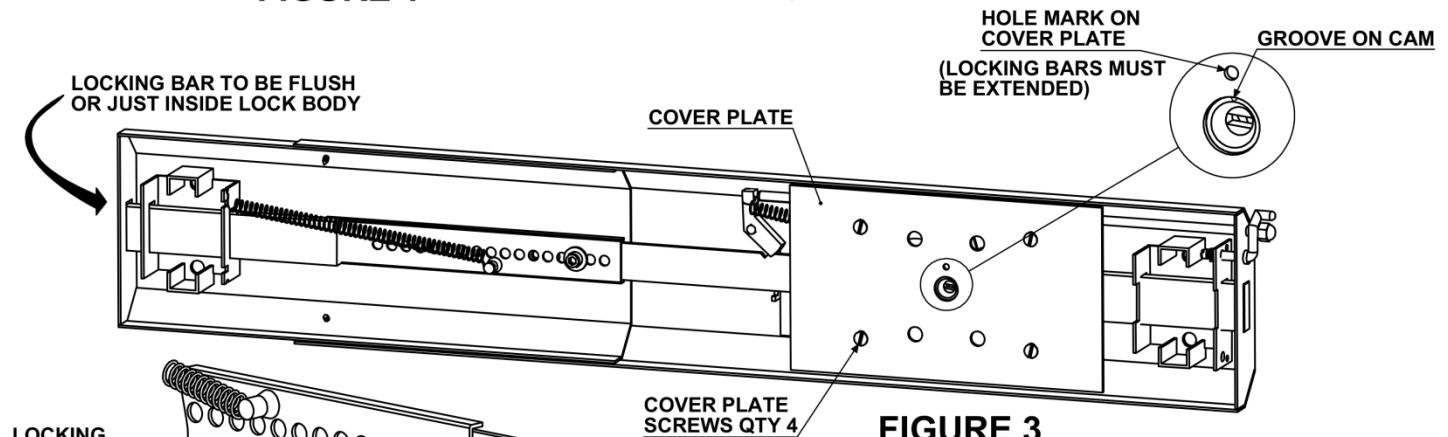

FIGURE 3
7. Remove locking screw from perforated locking bar & adjust locking bar in extension end of lock such that with the lock in the retracted position the locking bar is flush with (or just inside of) the end of the lock body. Refit screw in adjusted position & tighten. (Fig. 3)
8. Ensure the lever handle operates in a downward motion to retract locking bars. If it does not the 'hand' of the lock needs to be changed. If this is required, remove four screws from cover plate on the back of lock. Remove nuts & screws that secure the lever handle & rotate 180 degrees. Re-fit four screws & nuts for lever handle & re-install cover plate & screws. Lever handle should now operate in a downward motion. (Fig. 3 & 4)
14. This step only applies for locks supplied with external key access. Key must be in neutral position i.e. removable. Check that the groove on the cam aligns with marking on backing plate when locking bars are extended. (Fig. 3)